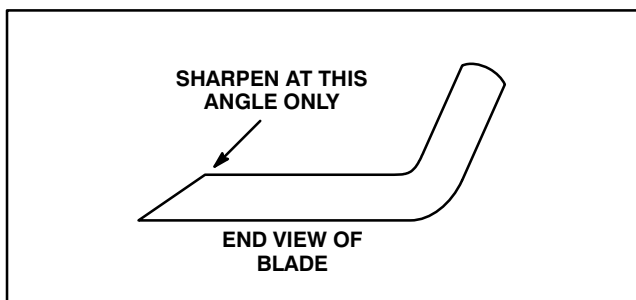

Figure 32
3. Examine cutting edges of all blades. Sharpen the cutting edges if they are dull or nicked. Sharpen only the top of the cutting edge and maintain the original cutting angle to make sure of sharpness (Fig. 32). The blade will remain balanced if same amount of metal is removed from both cutting edges.